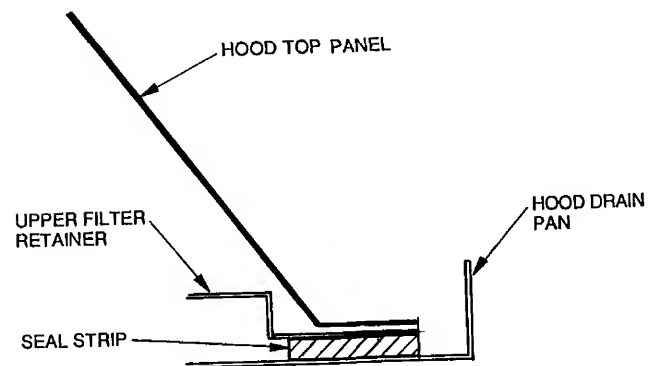

Fig. 17 - Seal Strip Location (Air Hood Cross-Sectional View)
- Attach seal strip to upper filter retainer. See Fig. 17.